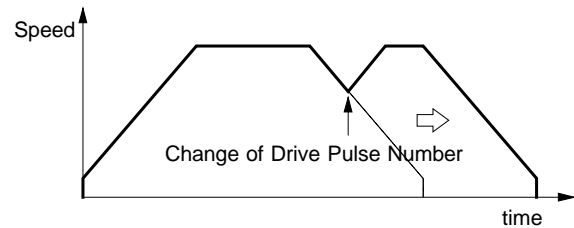
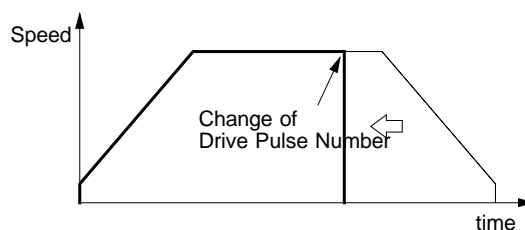

Fig. 2.1-7 Change of Drive Pulse Number
Fig. 2.1-8 Changing Drive Pulse Number Less than Output Pulse Number
In acceleration / deceleration driving, if the rest of output pulses become less than the pulses at acceleration, and the drive pulse number (TP) is changed during deceleration, the driving accelerates again (Fig. 2.1-7). And if the output pulse number of changed drive pulse number (TP) is less than the number of pulses already output, the driving stops immediately (Fig. 2.1-8).